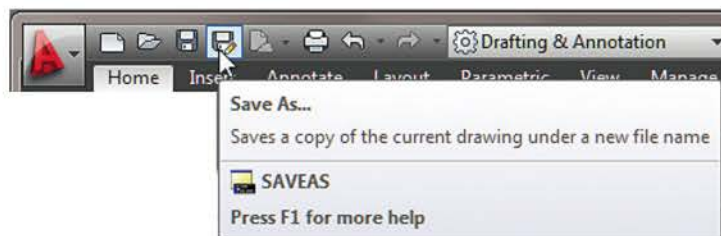

Fig. 1.28 *Click* Save As
6. *Click* the **Save As** icon in the **Quick Access** toolbar (Fig. 1.28). The **Save Drawing As** dialog appears. In the **Files of type** popup list, select **AutoCAD Drawing Template (*.dwt)**. The templates already in AutoCAD are displayed in the dialog. *Click* on **acadiso.dwt**, followed by another *click* on the **Save** button.